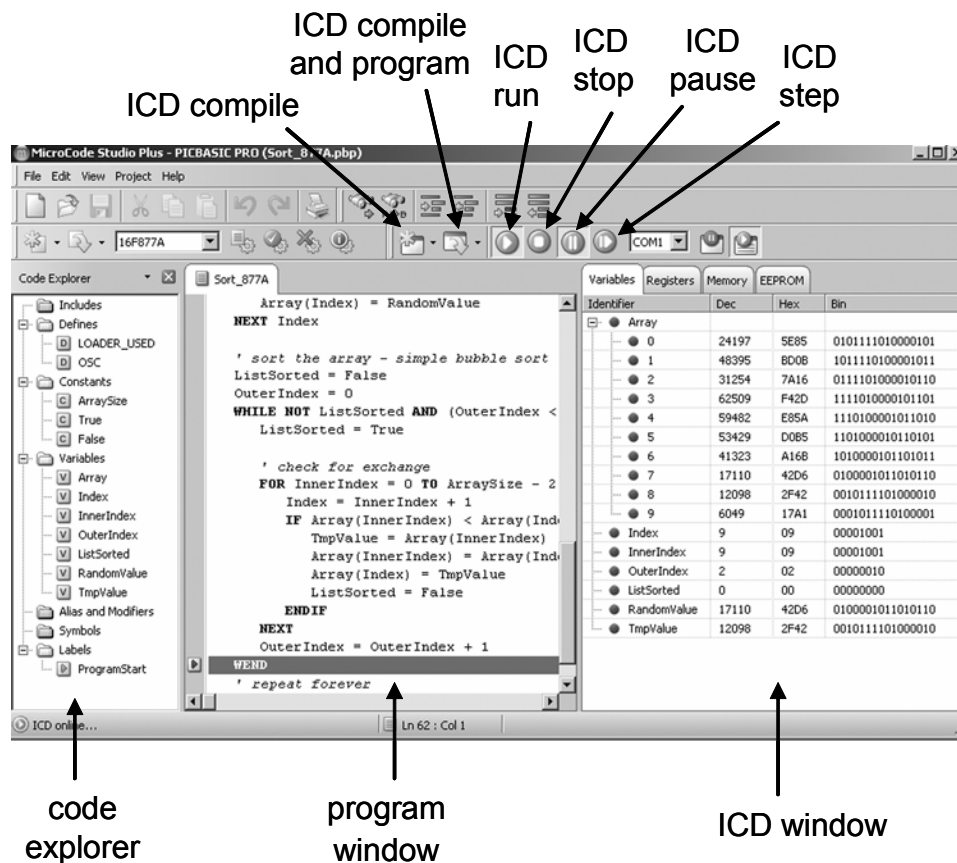

Figure 3. In Circuit Debugger (ICD) within MicroCode Studio.
1. Program your device by clicking on the "ICD compile and program" button. Then click the "ICD run" button. You can now monitor the progress of the program. In the editor window, the in-circuit debugger highlights in blue whatever line of code is currently executing. A new window – the ICD window – also opens, as shown in Figure 3. The ICD window allows you to view the contents of variables, registers, memory, and EEPROM. You can press the pause button at any point to freeze and examine the contents of these items.